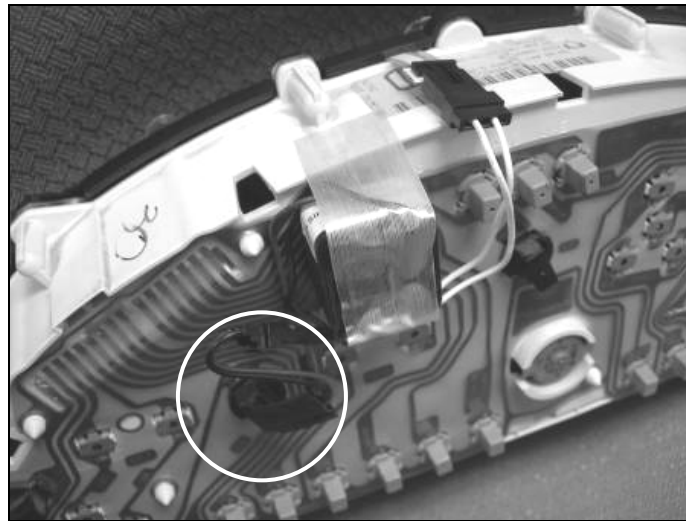

Figure 13
- A. Remove the liner from the 4” strip of tape provided and strap the Simco EL Inverter to the flexible circuit. (See Figure 13)
- B. Connect the connector from the white leads to the connector on the Simco EL Lamp.(See Figure 13)
- C. Remove the black lamp circled in Figure 13. This lamp is the second from the left if you are looking at the back of the cluster.
- D. Plug the new lamp connector into the empty lamp socket so that the red wire is to the right, push downward and twist a quarter turn clockwise (CW) until the lamp connector is firmly in place.(See Figure 13)